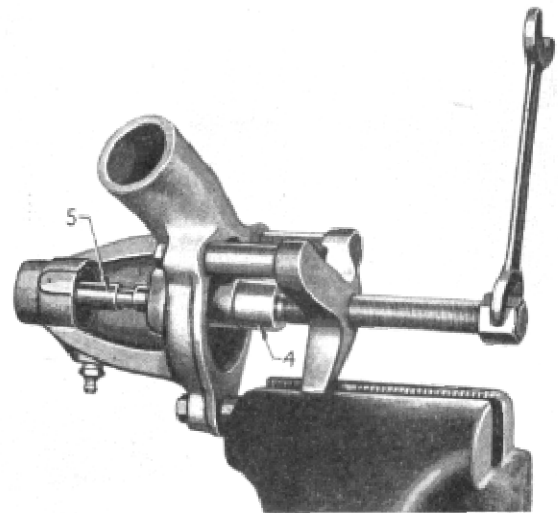

Figure 10
(11) Fig. 10—Put rear bearing into housing from rear. Assemble pilot (4) to screw and push shaft (5) back into pilot (4) to act as a guide for the bushing. Tighten screw until rear of bearing is flush with rear of support. Back off screw and remove shaft.